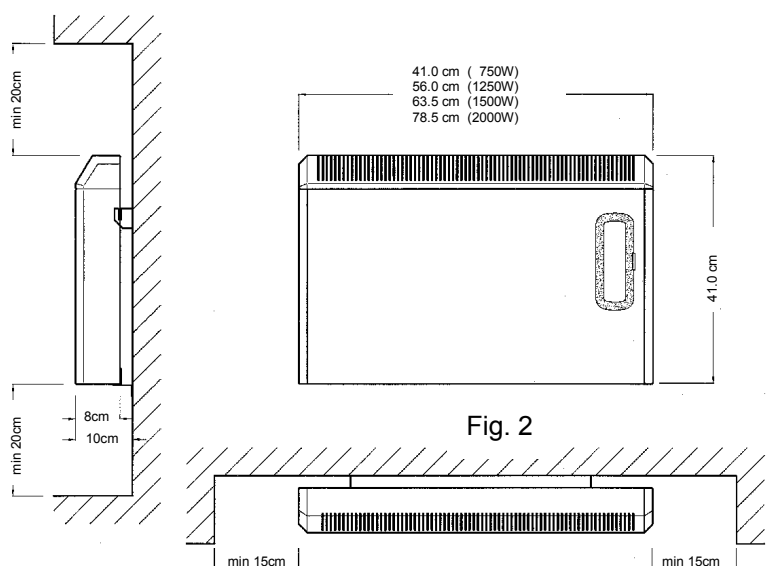

Fig. 2
- Position and fix the top bracket at the correct distance from the floor (see Fig. 2) and hang the unit on the hooks of the top bracket. Mark the fixing points on the wall using a pencil. Use the heater fixing holes as a template and mark the wall through the two fixing holes in the square brackets. Fix the heater to the wall.